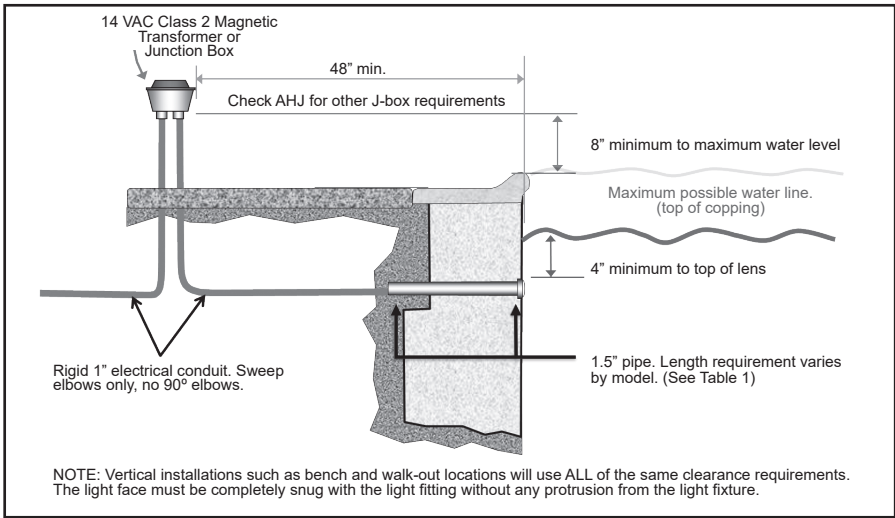

Figure 1. Jandy® LED Light Installation with Standard 1.5" Plastic Fitting
NOTE: The electrician must complete preparatory steps before light fixture is installed. See Figure 1.
1. The junction box or Infinite WaterColors LED Light Controller is suitable for direct conduit connection to lights and must be located at least (8) inches above water level, at least four (4) inches above ground level, and at least 48 inches (4 feet) from the edge of the pool, or as required by local code. See Figure 1.
3. A standard 1.5" plastic wall / return fitting (not included) must be installed so that the top edge of the underwater light's lens is at least 4 inches (10.2 cm) below the surface of the water in the pool. See Figure 1.